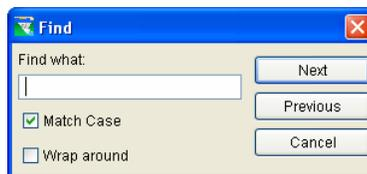
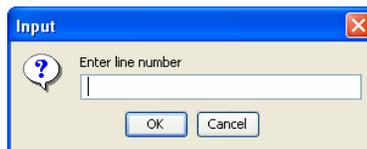

Figure 14.80 Script Browser, Editor Pane: Find Command
Figure 14.81 Script Browser, Editor Pane: Input Goto Line Number
- The pop-up menu also contains the following commands: **Find** (which opens the Find dialog as shown in Figure 14.80), **Find Next**, **Find Previous**, and **Goto Line** (which opens an **Input** dialog box as shown in Figure 14.81).